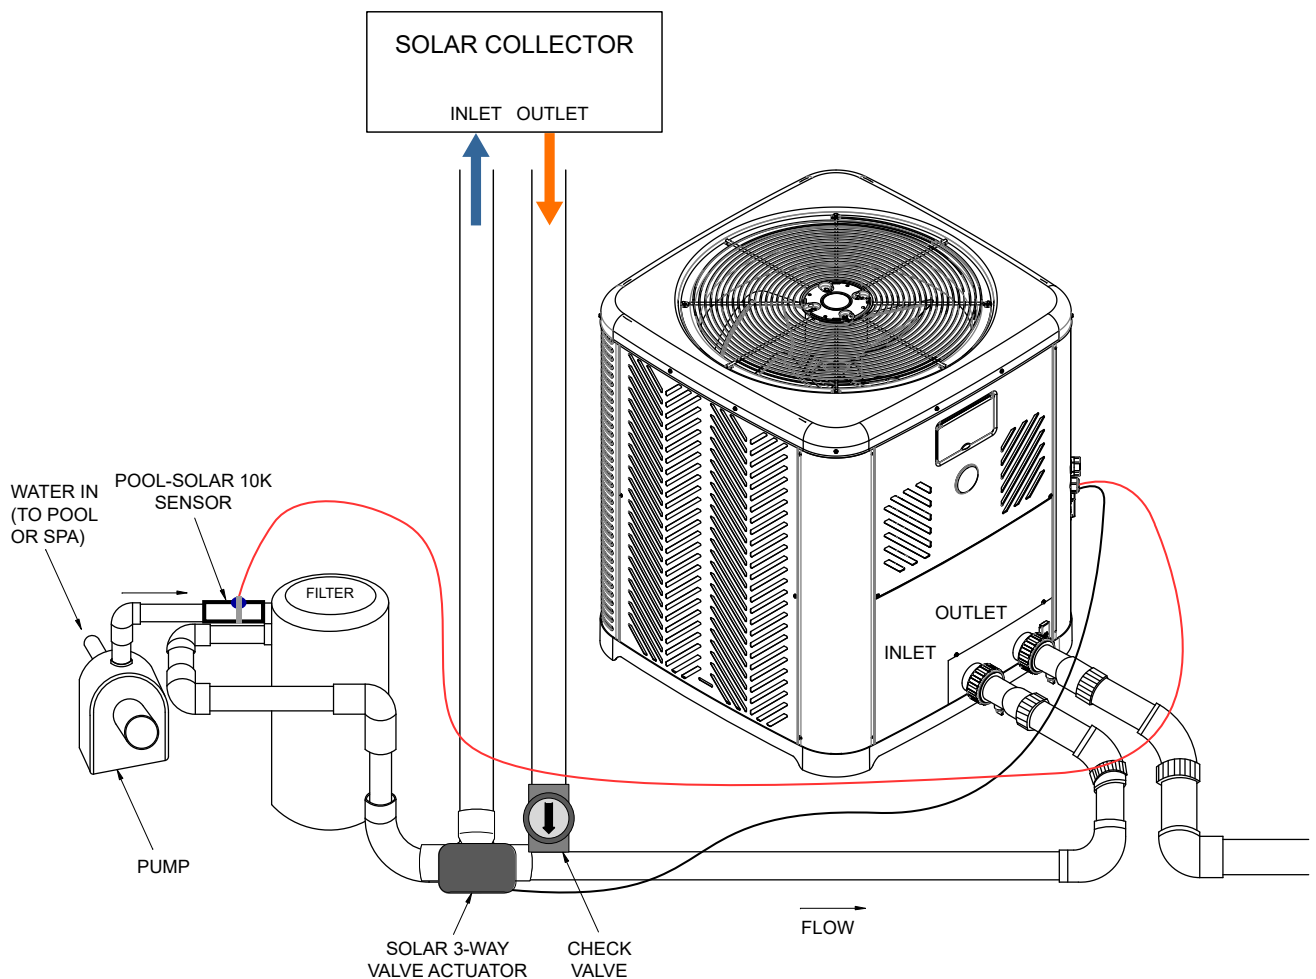

Figure 159. Solar Heater Components in the Piping
3. Install a "check valve" at the outlet of the solar heater to prevent backflow to the solar collector. See Figure 159.